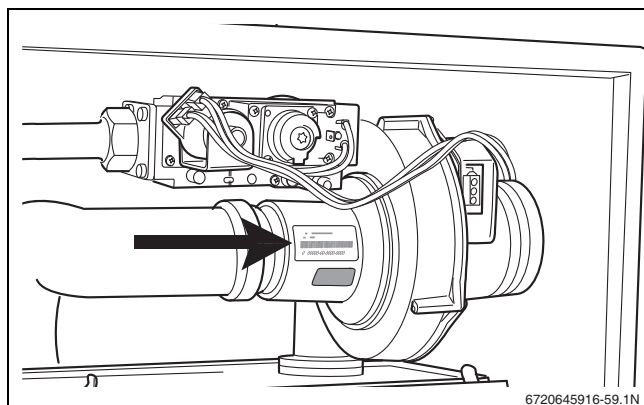

Fig. 63 Checking the gas classification label
- ▶ Check that the actual gas supply is in accordance with the type of gas supply specified on the gas classification label (→ fig. 63).